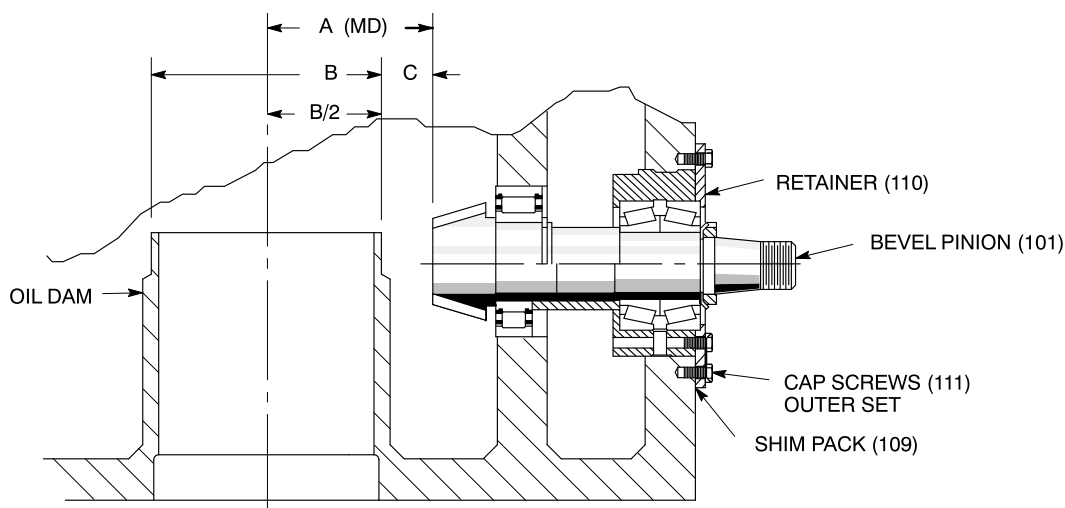

FIGURE 7 – SETTING MOUNTING DISTANCE
- a . Unit size 76–86 only: Install O–ring (29).
- b . Insert the bevel pinion sub–assembly into the housing without shims (109) and tap lightly until tight against face of the housing.
- c . Apply pressure to the end of the bevel pinion shaft (101), and measure the gap between the oil dam and the toe of the bevel pinion (Dimension "C"). Record the measured gap.
- d . Determine the shims (109) required by referring to the mounting distance (MD) and oil dam diameter (B/2) recorded previously and referring to the method shown below (see Figure 7).